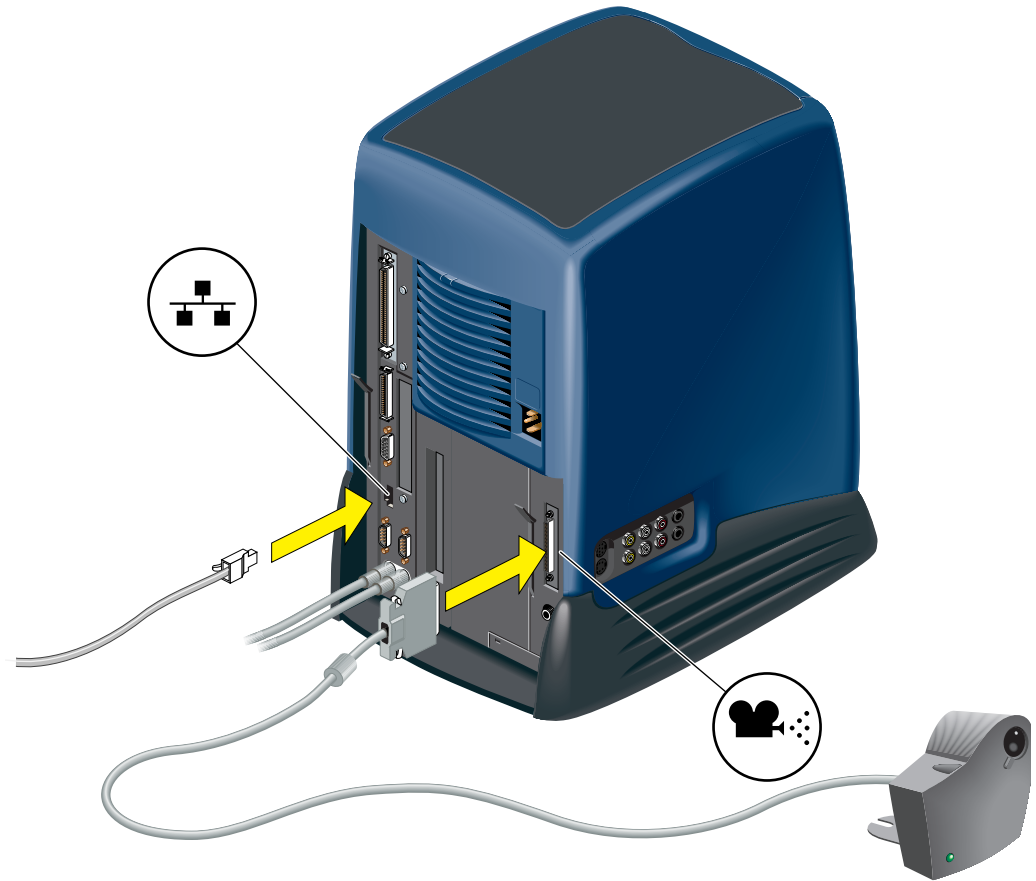

Figure 1-7 Connecting the Network Cable and the Camera to the Workstation
2. Connect the Ethernet 10-BASE T or 100-BASE T network cable to the Ethernet RJ45 connector on the rear of the workstation (Figure 1-7). If you do not have an Ethernet connection in your office, check with your system administrator.
3. If you received the O2Cam, connect it to the workstation (Figure 1-7).